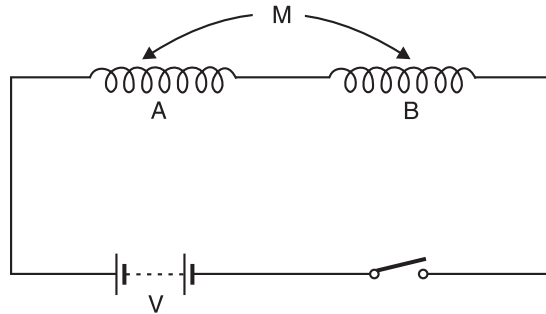

Fig. 9.40
**Solution.** Fig. 9.40 shows the conditions of the problem. When not mentioned in the problem, it is understood that the mutual fluxes of the two coils aid each other.